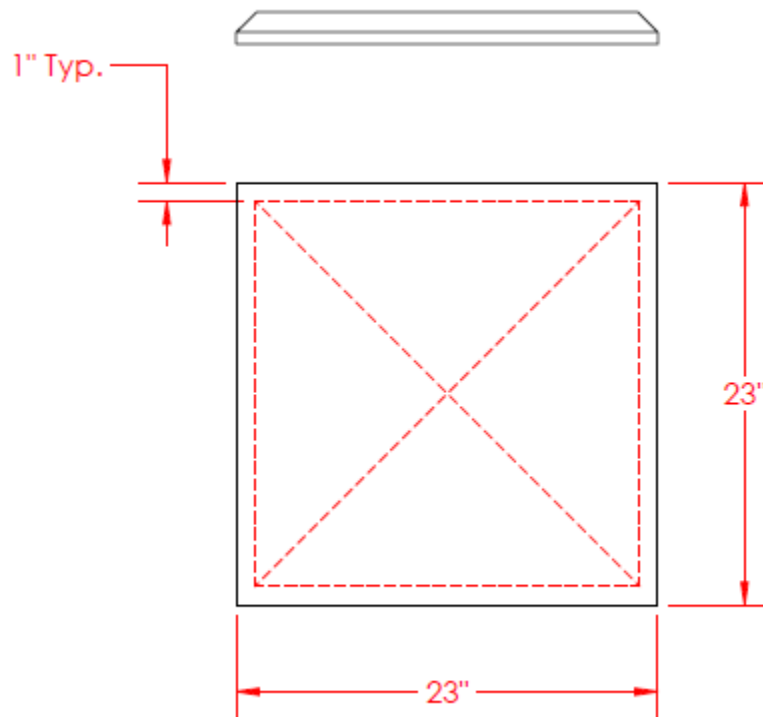

Figure 1: 2'x2' Applied Ceiling Tile
- 7) To maximize bonding process, use pressure to apply a ¼" bead of adhesive to back of acoustical panel around the full perimeter of the panel, applied to within 1" of panel edges. Use the diagram shown in Figure 1 below as a guide.
- 8) Using pressure, apply a ¼" bead of adhesive from opposite corners through the center of the panel, forming an "X". Use the diagram shown in Figure 1 below as a guide.